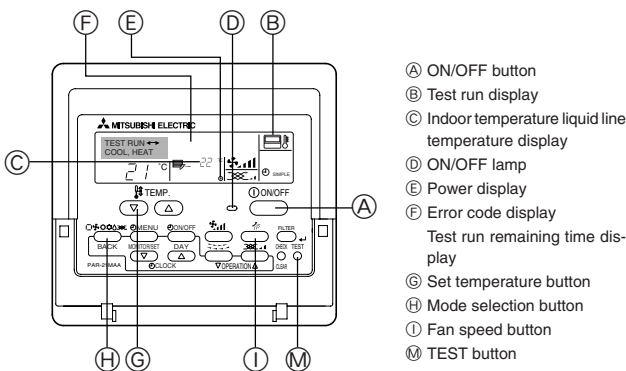

Fig. 10-2
10.3.2. Wired remote controller (Fig. 10-2)